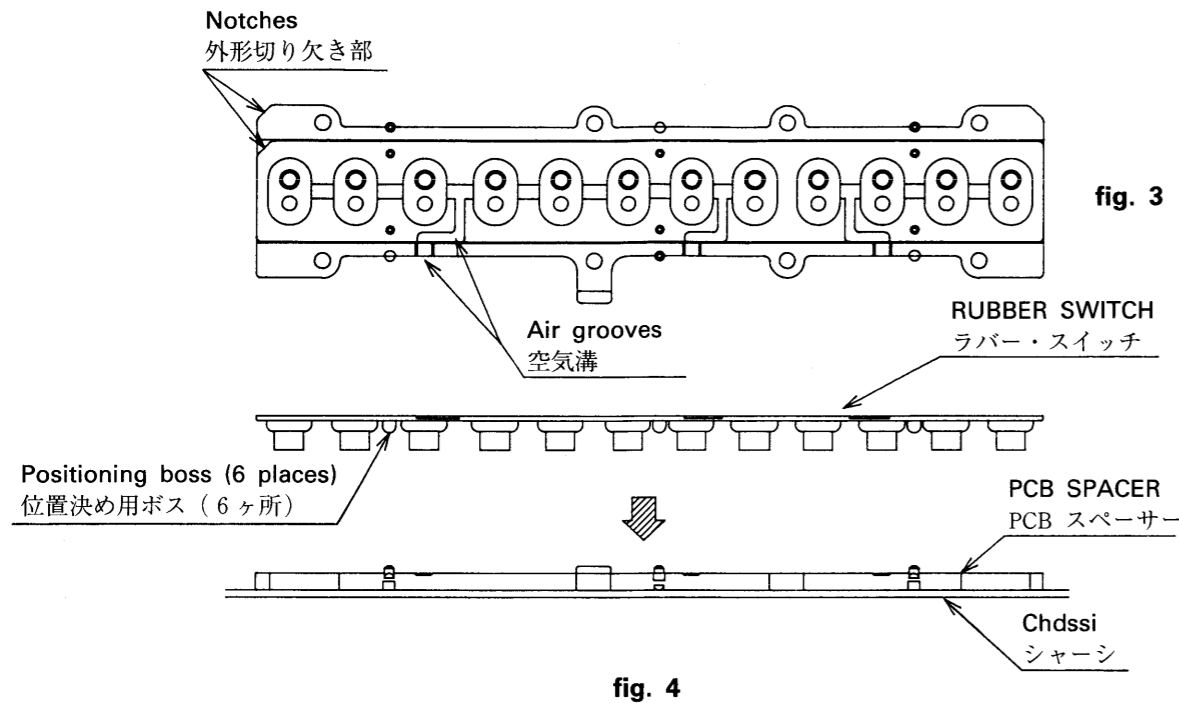

fig. 4
2) Then, locate the bosses of the Rubber Switches in the round holes of the Spacers, and as done for the Spacers, put Rubber Switches 12P and one Rubber Switch 13P in order, starting on the lower tone side. At this time, carefully match the positions of the Rubber Switches, Spacer notches and air grooves. (See fig. 3 and fig. 4.)
この際、RUBBER SWITCH と SPACER の外形切り欠け部、及び空気溝の位置が合うように注意してください。（fig.3 fig.4 参照のこと）